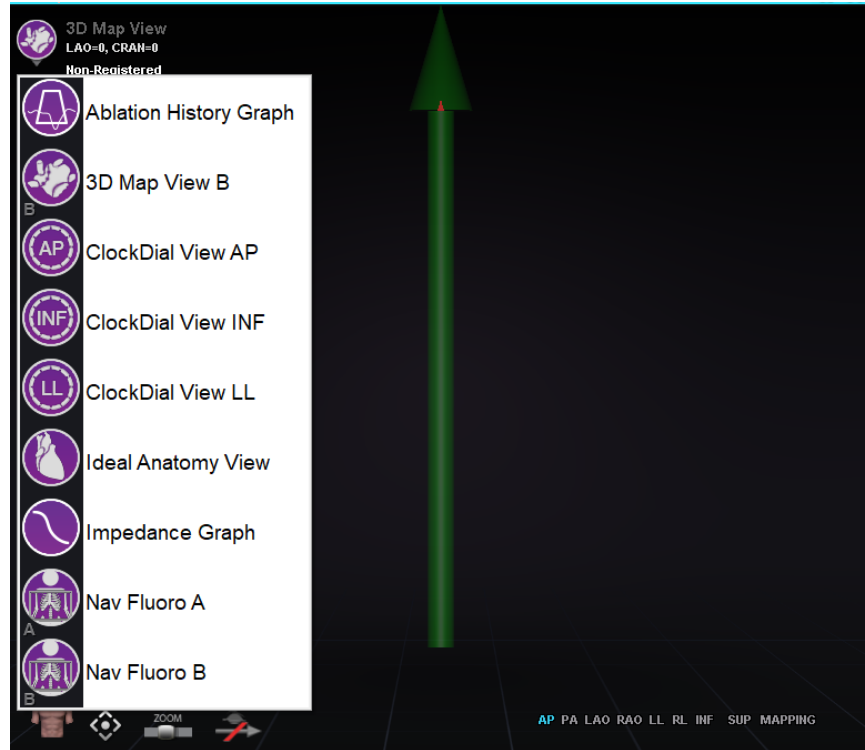

Figure 19. Window Display Menu Options
- Use the window swap drop-down menu (**Figure 19**).
The *Navigant* video source area includes purple icons in the upper, left-hand corner of each window. Selecting this icon will enable a drop-down menu (Figure 19) where the user can select a different display within that window.